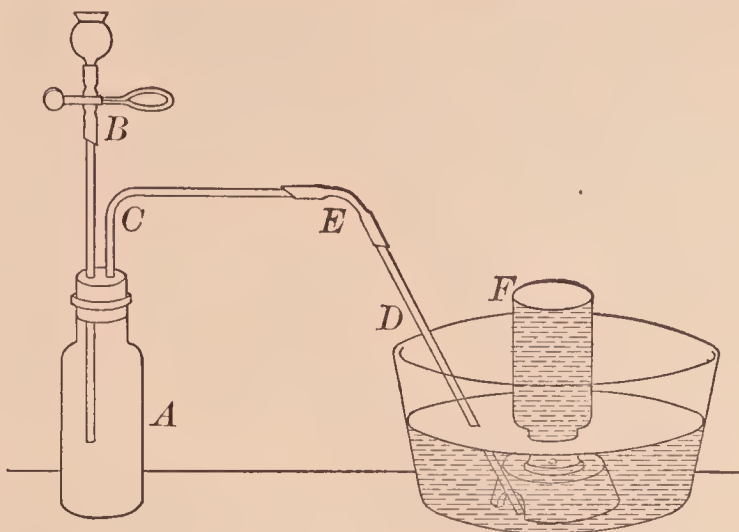
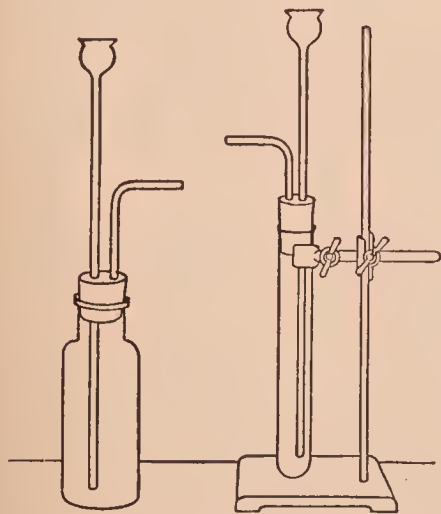
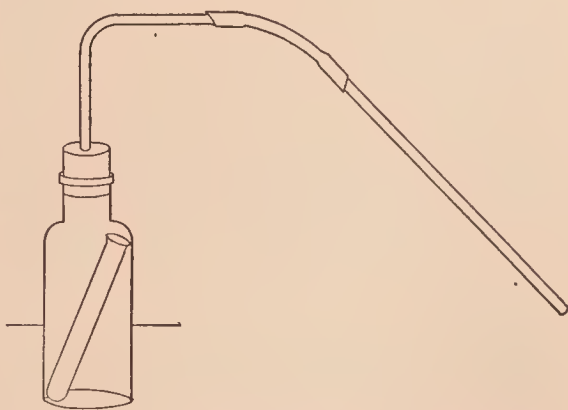

FIG. 13. — Apparatus for preparing carbon dioxide
FIG. 14. — Simple apparatus for preparing carbon dioxide
FIG. 18. — Simple fire extinguisher
**APPARATUS.** — As in Fig. 13. *A* is a 250 cc. bottle provided with a two-hole stopper, through which passes the dropping tube *B* and the right-angle bend *C*; the tube *D* (15 cm. or 6 in.) is attached to the bent tube by the rubber tube *E*.
Instead of the apparatus shown in Fig. 13, one of the simple forms shown in Fig. 14 may be used; in these the lower end of the thistle tube must be beneath the acid.
as in Fig. 13. Fill the pneumatic trough with water, fill a bottle with water, cover with filter paper (Fig. 7), invert, stand it on the support, and remove the paper. Fill three other bottles and have them ready.
APPARATUS. — Bottle with one-hole stopper and tubes as in Fig. 18.
Make a simple extinguisher like that shown in Fig. 18. The bottle and tubes are those used (as *A-C-E-D*) in the apparatus shown in Fig. 13. The bottle is filled about two-thirds full with saturated sodium bicarbonate solution. The small tube (inside the bottle) contains dilute sulfuric acid and a piece of lead to hold it down after it is lowered into the solution. Connect the tubes with the stopper and push the stopper well down into the neck of the bottle.